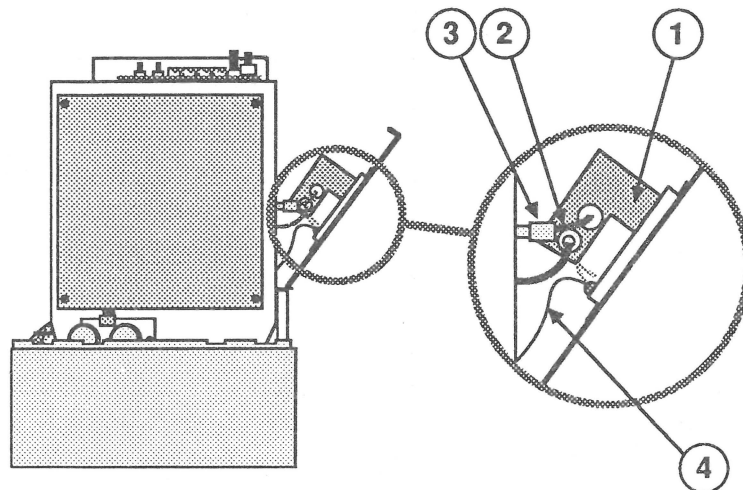

FIGURE 31
6. Tip the metal screen toward you until you can see the high-voltage capacitor (Figure 31, #1) that is attached to the upper surface of the screen.
7. Locate the rubberized wire (Figure 31, #2) that connects the flyback to the high-voltage capacitor. To release this wire, first peel back the wire's rubber boot (Figure 31, #3) from the opening in the plastic capacitor housing. Then insert needlenose pliers into the opening in the plastic housing, and grasp the wire as close as possible to the capacitor. Push the wire in (toward the capacitor), rotate it one-quarter turn counterclockwise, and pull the wire out. The wire will come out easily once it has been rotated counterclockwise. (This procedure can be a little tricky—you may have to try it a couple of times.)
8. Disconnect the gray wire (Figure 31, #4) from its red, four-wire connector at D-6 on main logic board "D."